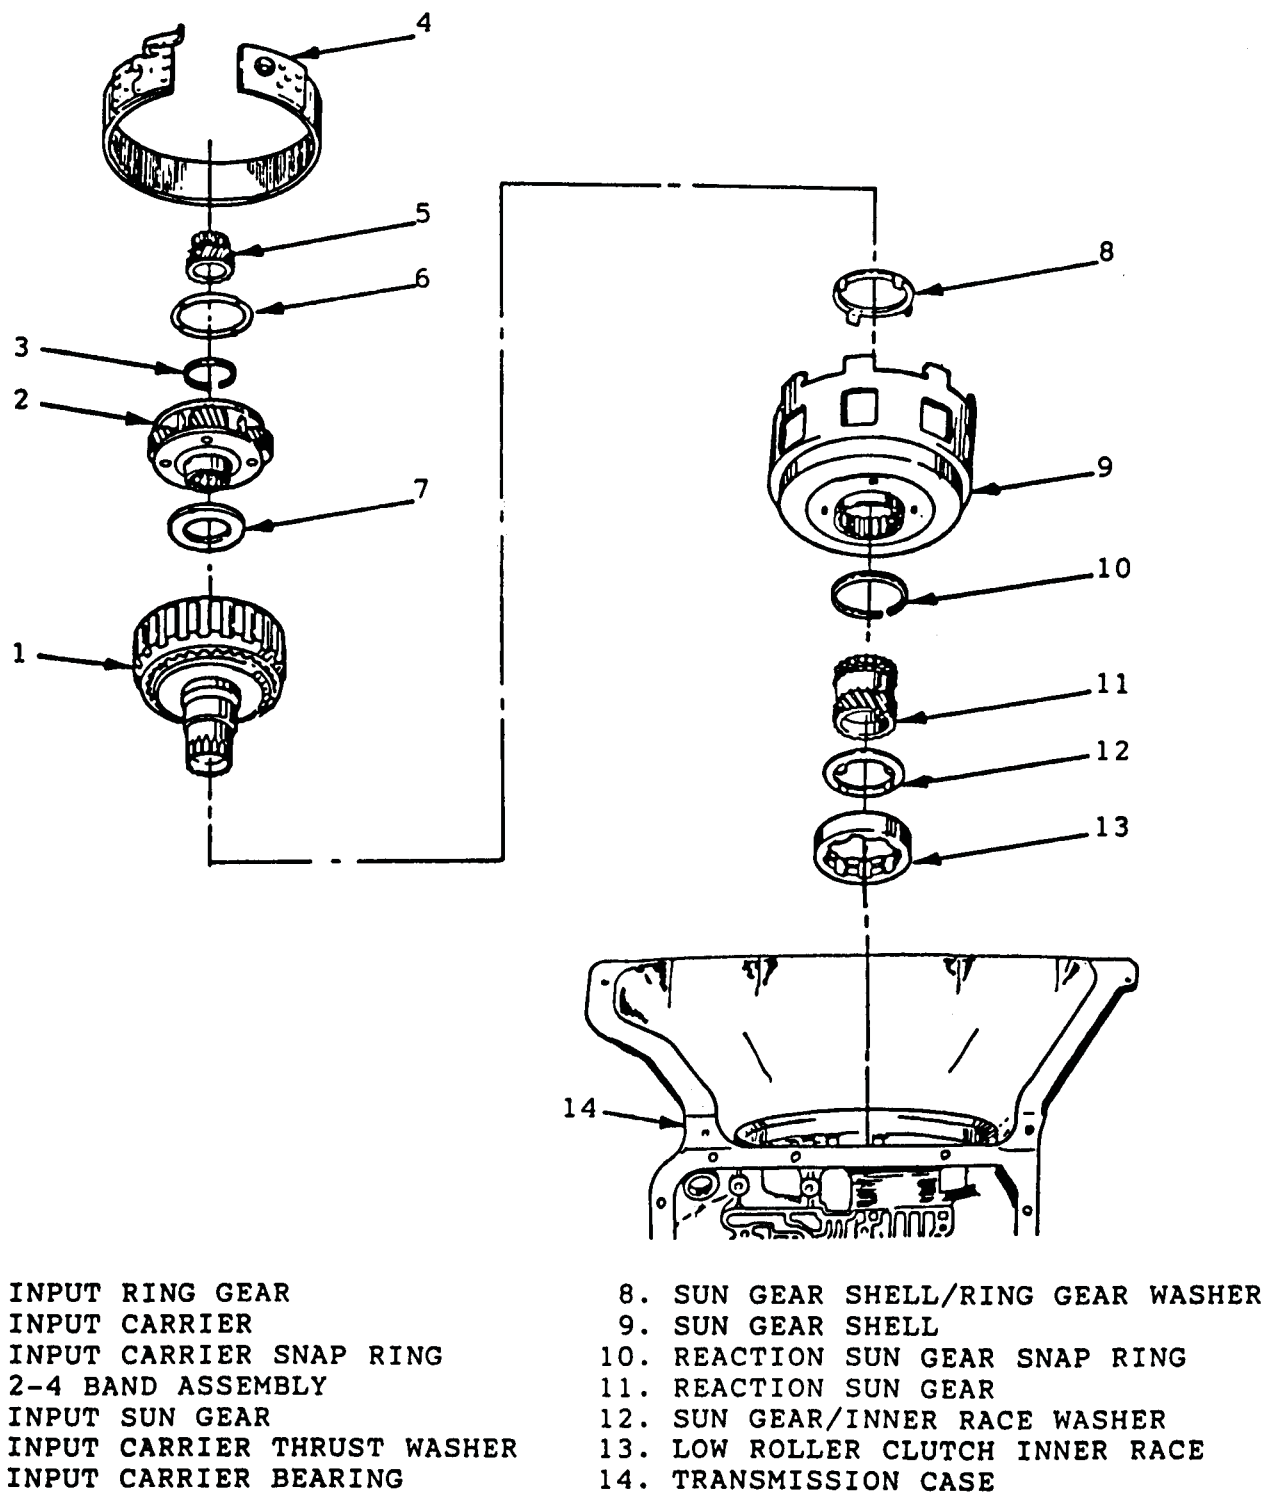

Figure 78
2. Inside tangs of the thrust washer should engage in four slots of the inner race (See Figure 78).
4. Install the reaction sun gear shell onto the splines of reaction sun gear (See Figure 78).